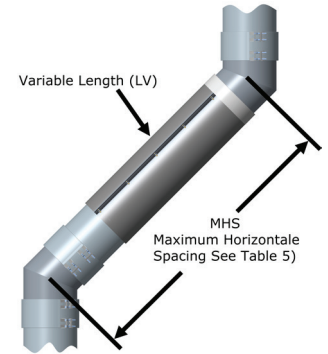

Figure 36b - Maximum Spacing between supports for Offset
- The length of the offset is determined by strength considerations. The maximum distance between supports is given in **Table 7** and **Figure 36b**, and is applicable to all horizontal and sloped orientations